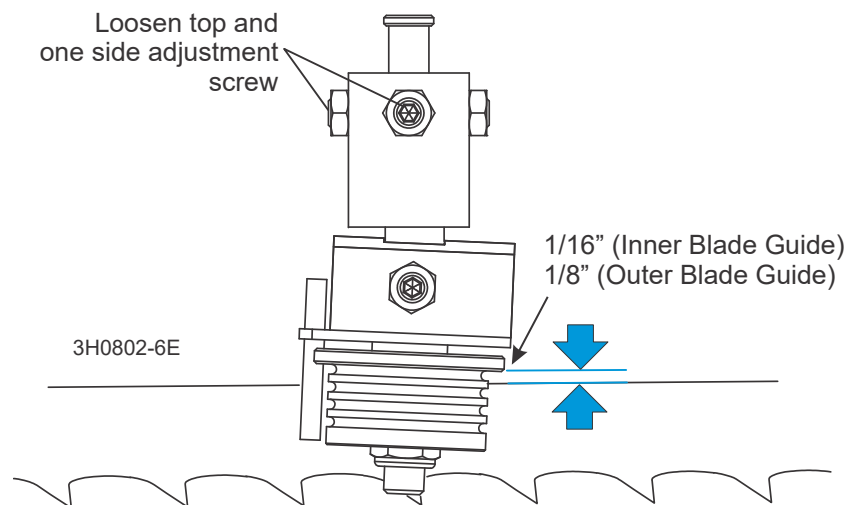

FIG. 7-18
See Figure 7-18.
6. Ensure that the distance between the flange on the outer blade guide roller to the back edge of the blade measures to 1/16" (1.5 mm). (See Figure 7-18.)